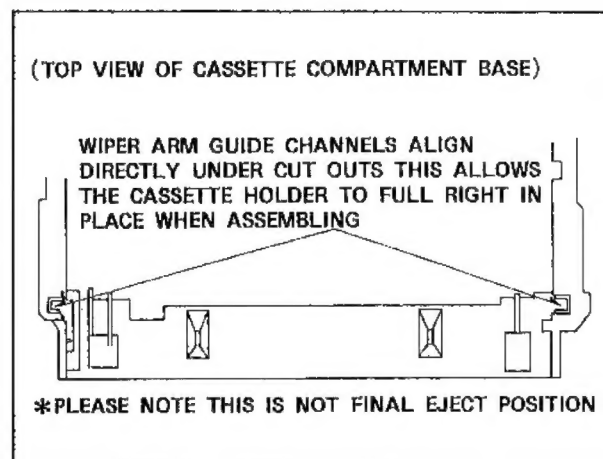

Fig.M51
7. Install the Cassette Holder Unit in the Cassette Compartment Base as shown in Fig.M51.